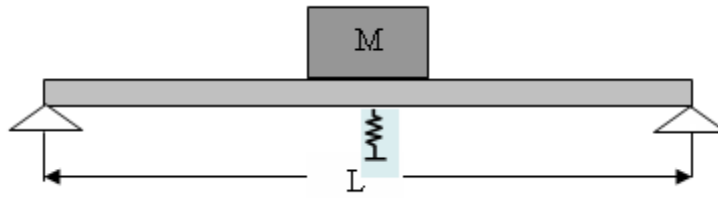

Figure 1.
8. A machine of mass, $M = 500$ kg is mounted on a simply supported steel beam of length, $L = 2$ m having a rectangular section with depth of 0.1 m, width of 1.2 m and Young's modulus, $E = 2.06 \times 10^{11}$ N/m². To reduce the vertical deflection, of the beam, a spring of stiffness k is attached as shown in Figure 1. Determine the value of k needed to reduce the deflection of the beam by: